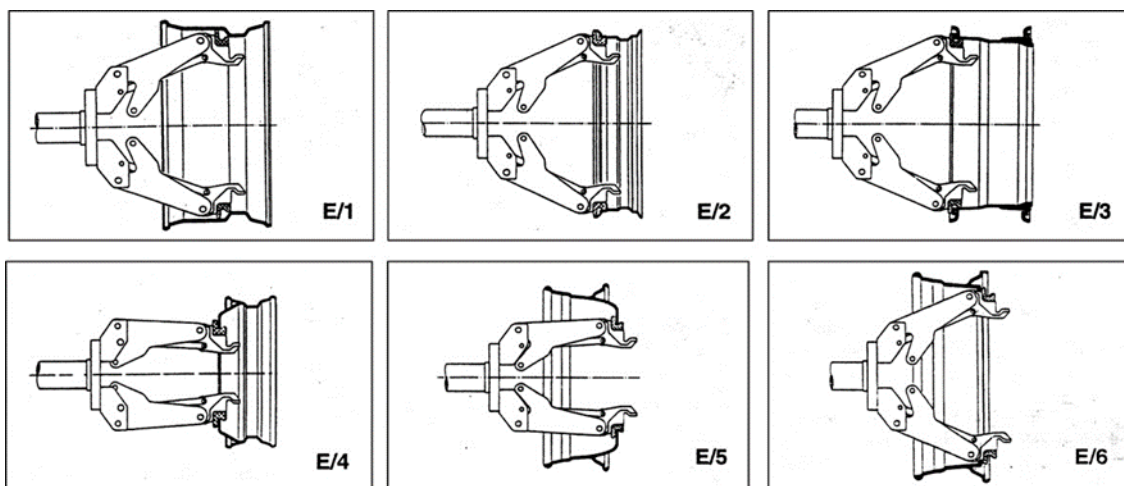

Fig 10
- 4) With the spindle jaws in their closed position, move the sliding table towards the spindle and operate the switch (9, Fig C) to open the jaws and to lock onto the inside of the rim. The locking positions are shown below in Fig 10. **Note:** It is always safest to lock onto the central flange of the rim.
of the rim (E/1, Fig 10).